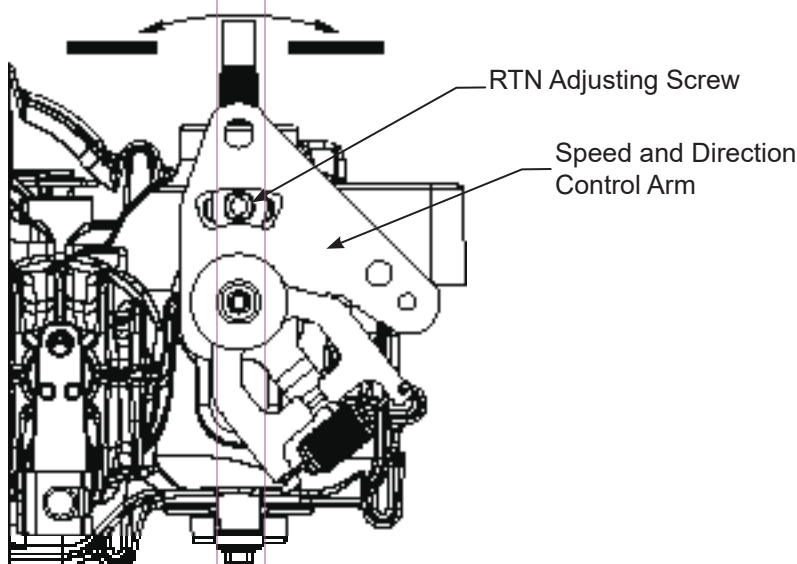

Figure 7, Return to Neutral Setting
6. Note the axle directional movement. Stop the vehicle engine. Loosen the RTN adjustment screw until the control arm can be rotated. Rotate the control arm in the opposite direction of the axle rotation in 5 degree increments. Tighten the RTN adjustment screw. Recheck according to steps 3 and 4. Refer to Figure 7.